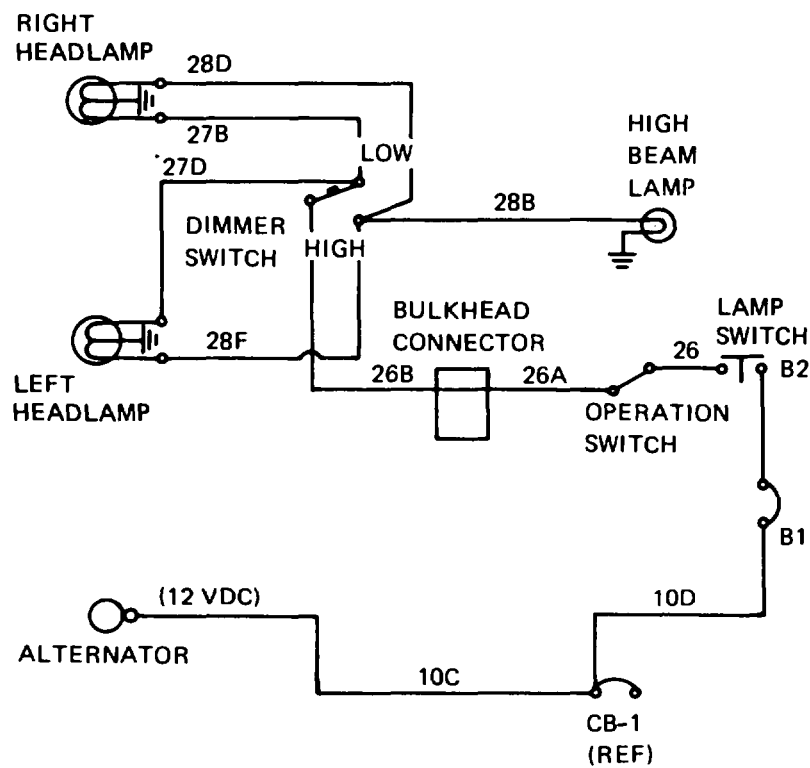

Figure 5-31. Headlamp Circuit
a. *Description (fig. 5-31).* The headlamp system uses two sealed-beam lamps which provide separate and distinct high and low beams. A foot-operated dimmer switch controls the use of the high or low beam. The headlamp switch on the instrument panel turns the headlamps ON and OFF. A recycling type circuit breaker in the headlamp switch protects the circuit without a total loss of the headlamps in case of a short.